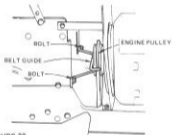

FIGURE 32
- Loosen L.H. Engine Pulley Belt Guide Bolt and swing Belt Guide onto R.H. Bolt. Tighten L.H. and R.H. Bolts securely (Fig. 32).